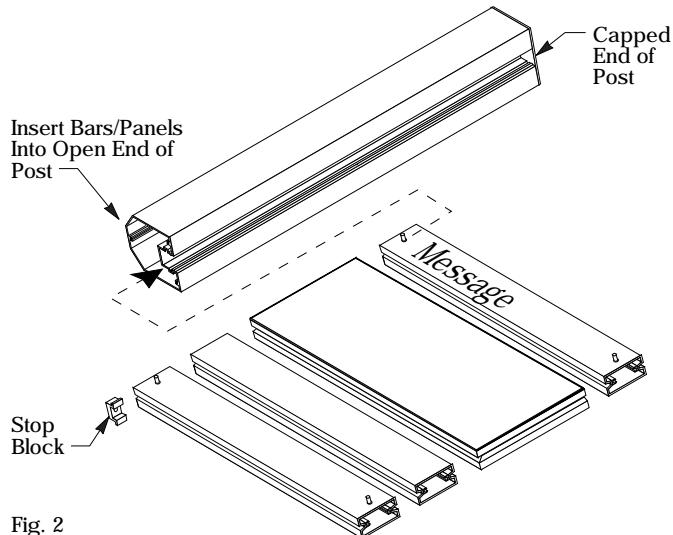

Fig. 2
3. Beginning with top message, align retainer (roll) pins into post pocket and slide bars and/or panels into place. (Fig. 2) Insert remaining bars and/or panels into post pockets. If Interlocking Spacers or Decorative Trim is used, insert them in the proper sequence.